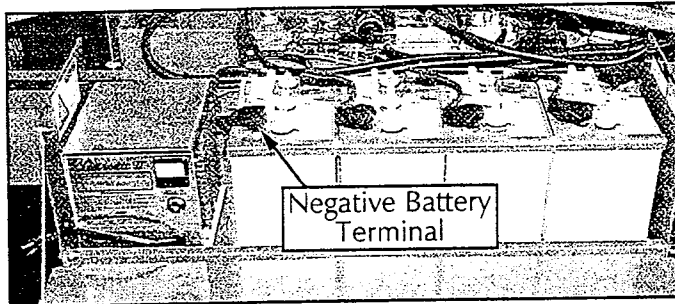

Figure 2-1: Power Module, Left Side
5. Connect the negative battery cable to the terminal (Figure 2-1).
3. Disconnect the negative (-) battery cable from the battery terminal (Figure 2-1).